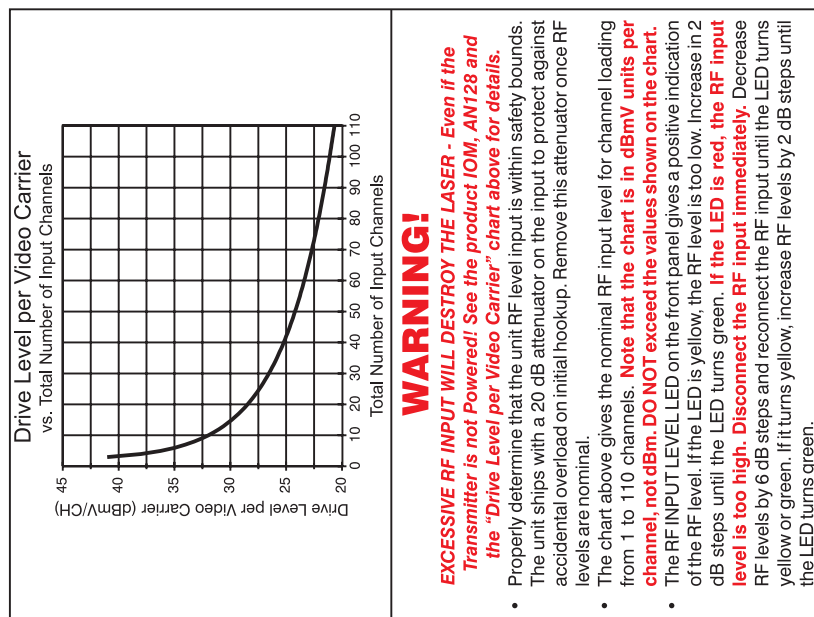

Figure 7 Top Label Used to Determine RF Input for Transmitter
- 7) Each transmitter has a label such as the one shown in Figure 7 that gives the RF input levels for the transmitter. The individual carrier levels should closely match each other to ensure consistent performance on all channels. In all cases, set the composite RF input level so that the RF INPUT LEVEL LED is green. The RF indicator LED only operates properly for rated channel loading and a flat input spectrum. To use the chart, look up the channel loading you will be presenting to the transmitter input and read off the drive level per video carrier. For instance, with 40-channel loading, each video carrier should be about +25 dBmV.